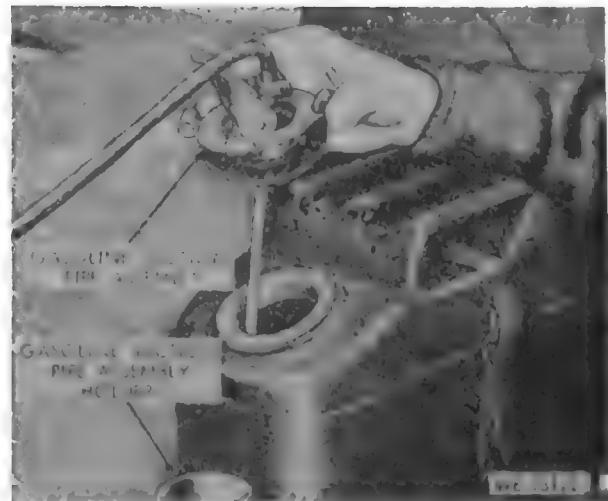

Figure 44. Removing or installing gasoline suction pipe assembly.
- (d) Remove the gasoline suction pipe assembly from the gasoline can (fig. 44) and stow in the gasoline suction pipe assembly holder. Check fuel supply. If necessary, replace with a full can of gasoline. Replace the suction pipe assembly. Be sure gasoline is reaching the engine.